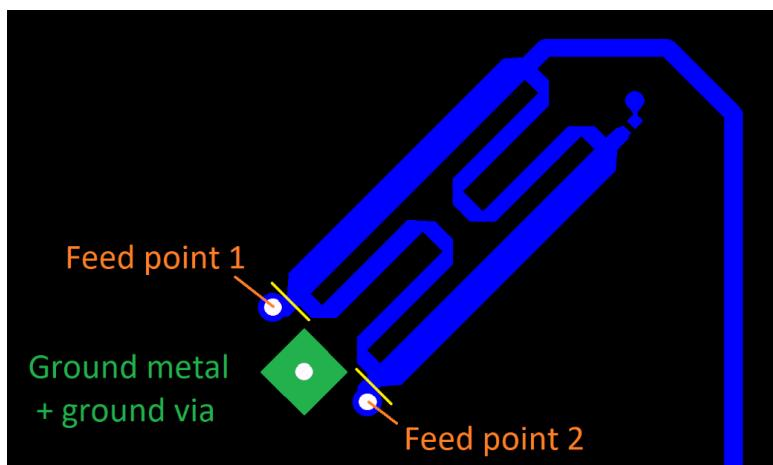

Figure 5.1. Antenna Impedance Measurement Point
1. The bottom side of the antenna array does not utilize any ground copper, therefore, a small piece of ground copper (~3x3 mm) with a ground via should be added near the antenna feed points on the bottom layer during the PCB layout design (shown with green on Figure 5.1 Antenna Impedance Measurement Point on page 13). This small piece of ground will not affect the antenna parameters or angle estimation accuracy but allows for connecting the ground reference of the coaxial cable used for antenna impedance measurements. Because the measurement is required only on one antenna, adding the small piece of ground near the antenna feed points is required for only one of the antennas.